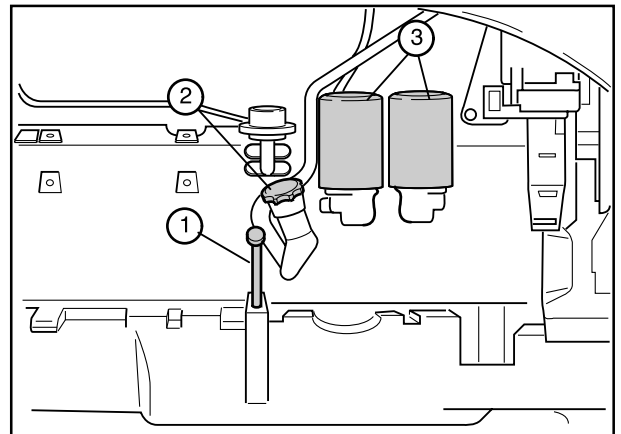

Fig. 5-3
Check the level of the engine oil every day or after every 10 hours service (Variable maintenance) (Fig. 5-3).
- 1 - Unscrew the old filters (3 - Fig. 5-3) from their supports.